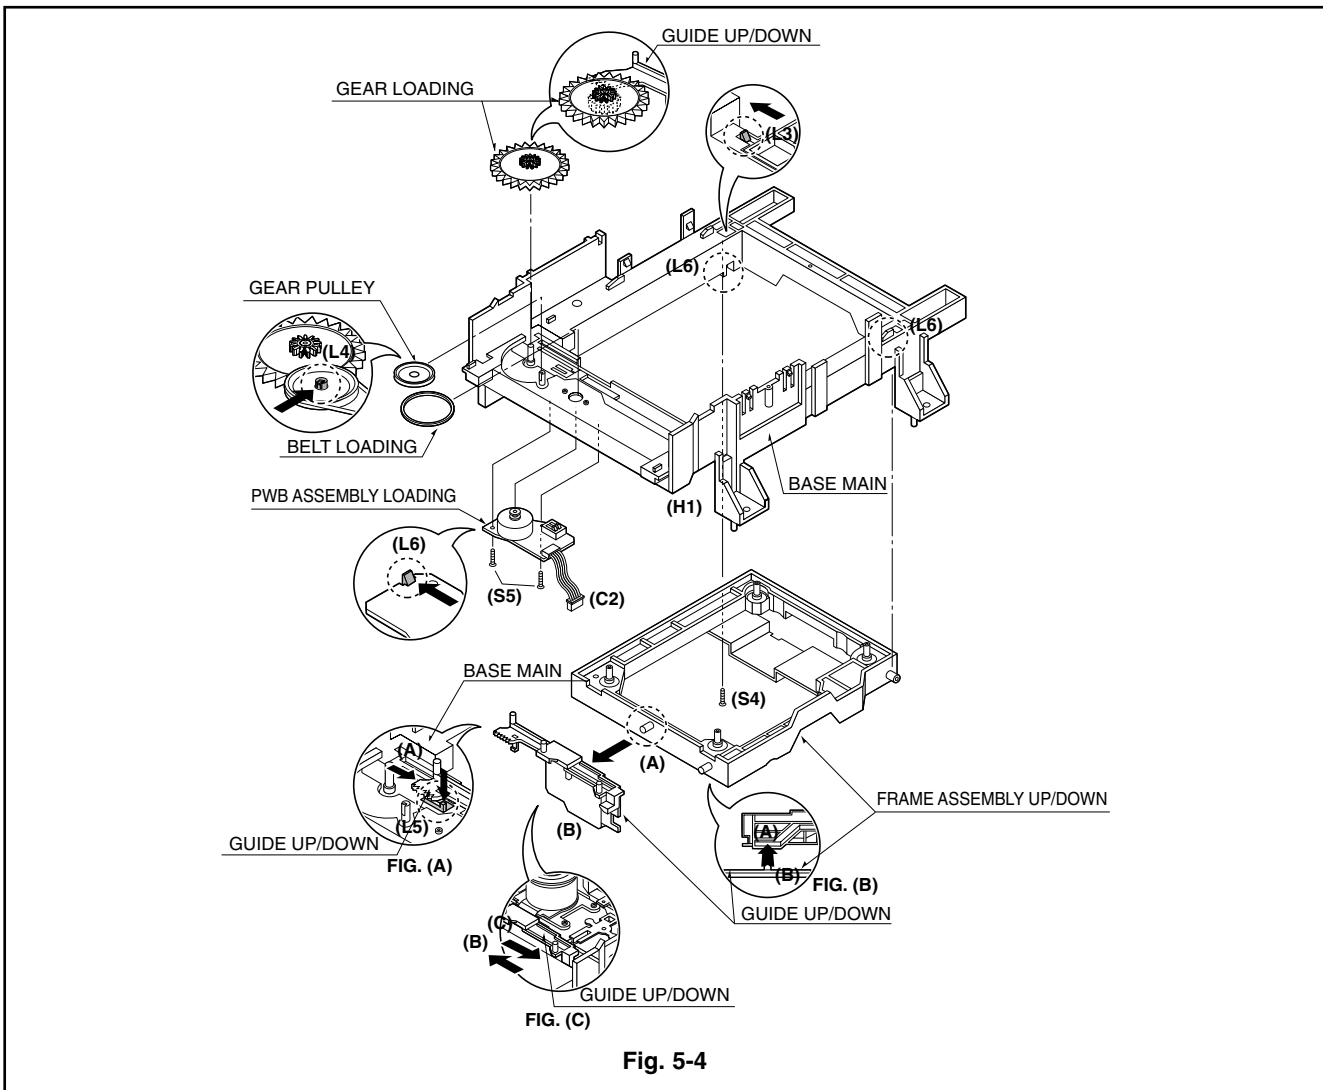

Fig. 5-4
- When reassembling move the Guide Up/Down in direction of arrow(C) until it is positioned as Fig.(C).
- When reassembling insert (A) portion of the Frame Assembly Up/Down in the (B) portion of the Guide Up/Down as Fig.(B)
6. Belt Loading(Fig. 5-4)
7. Gear pulley (Fig. 5-4)
- 1) Unlock the Locking Tab(L4) in direction of arrow(B) and then separate the Gear Pulley from the Base Main.
8. Gear Loading (Fig. 5-4)
9. Guide Up/Down (Fig. 5-4)
11. Base Main(Fig. 5-4)